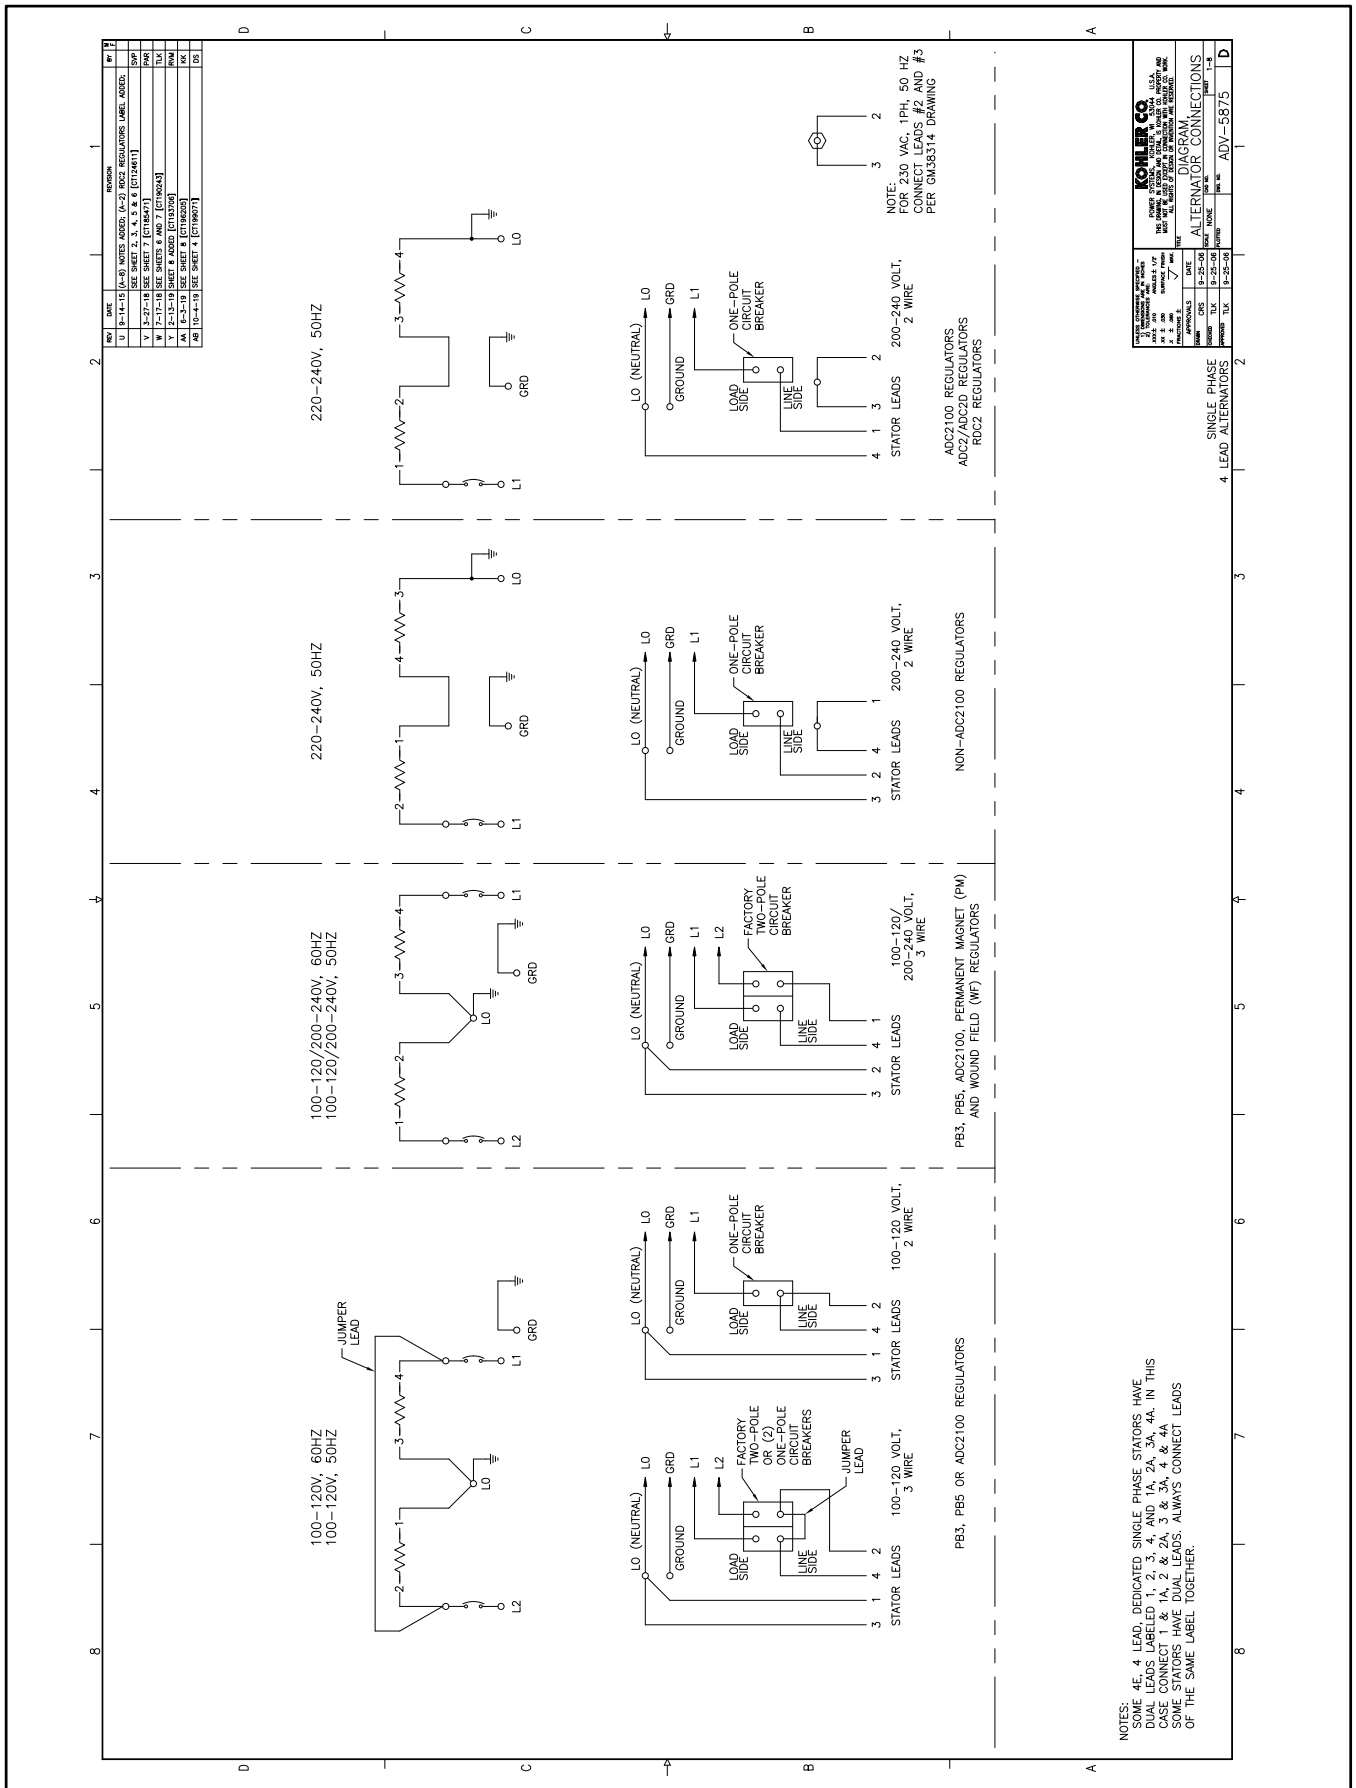
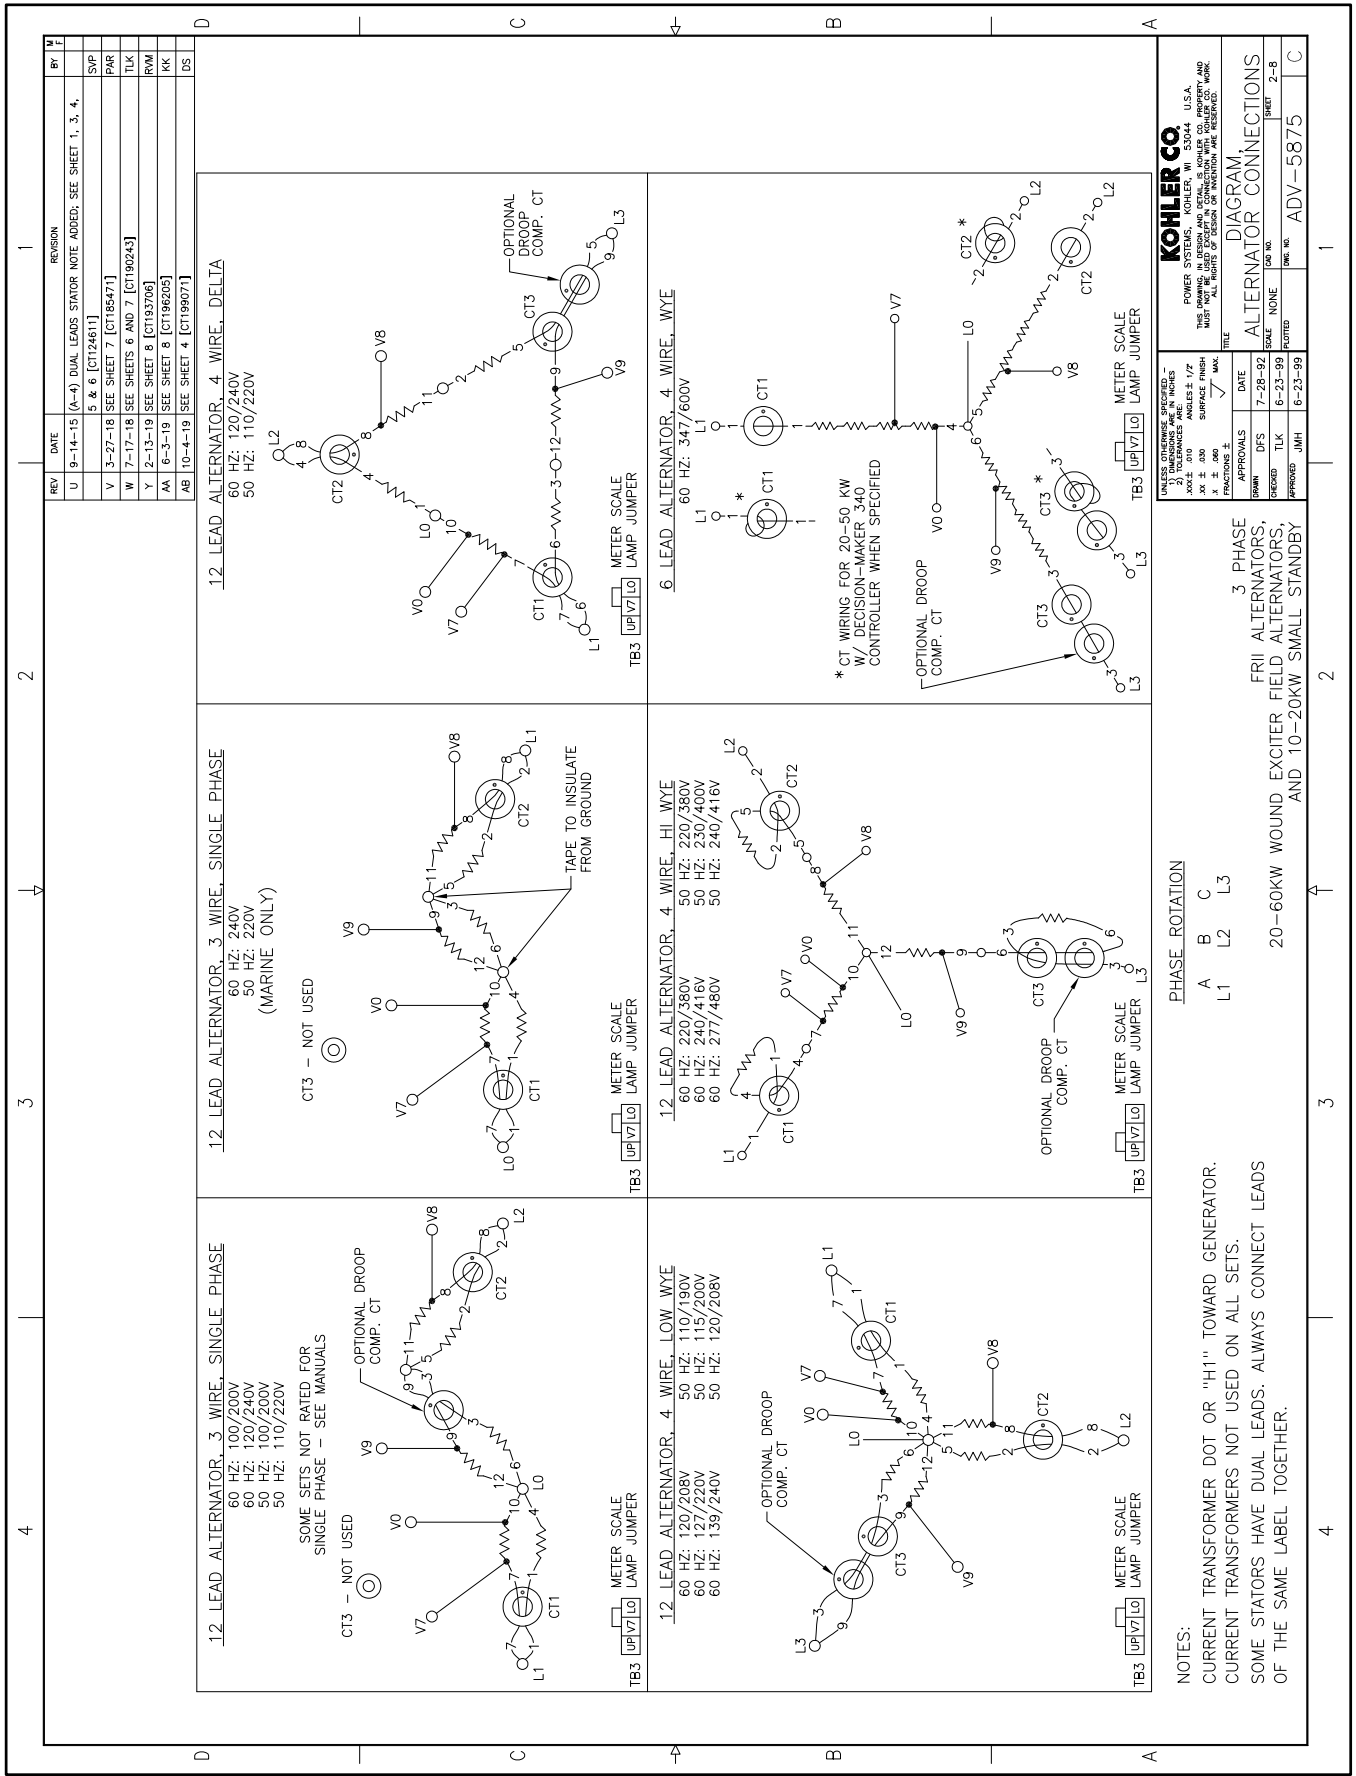

Figure 56 20- 150 kW Permanent Magnet Single-Phase Alternators, ADV-5875AB-1
Figure 57 20- 300 kW Permanent Magnet Alternators, ADV-5875AB-2
3. Use Figure 56, Figure 57, Figure 58, or Figure 59 to determine the generator set voltage configuration. Note the original voltage and reconnect as needed. Route leads through current transformers (CTs) and connect them according to the diagram for the desired phase and voltage.